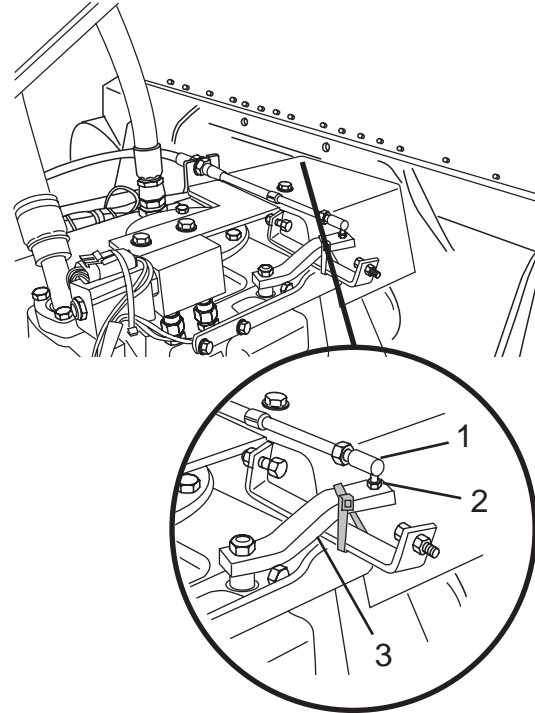

Figure 21
1. Pull back and hold the head (Figure 21, Item 1) of the control cable, and lift the end of the cable off the pivot (Figure 21, Item 2) to disconnect the control cable from the pump control lever (Figure 21, Item 3).
2. Move the pump control lever (Figure 21, Item 3) as required to start the drum rotation in the charge or discharge direction.